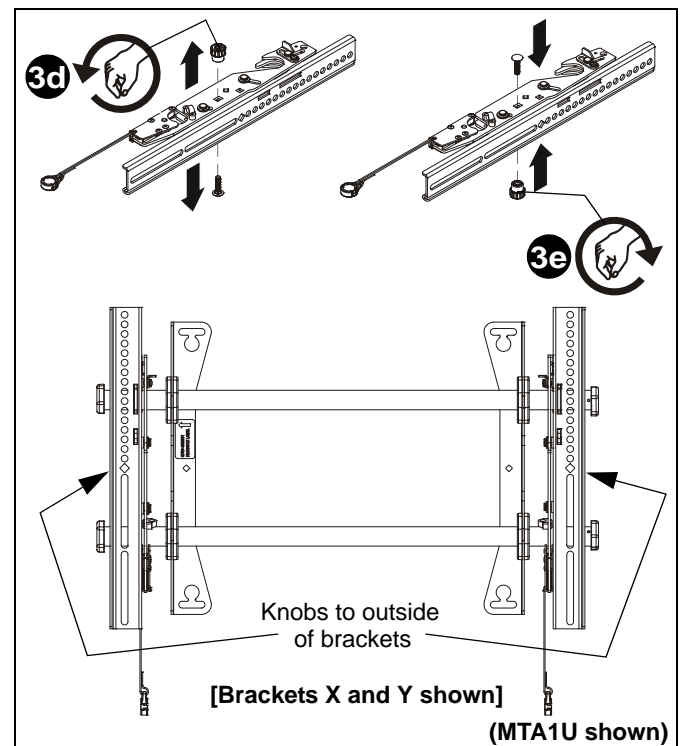

Figure 7
3. If necessary, the tilt interface bracket knobs may be switched to allow the interface brackets (X and Y) to be reversed. (See Figure 7)